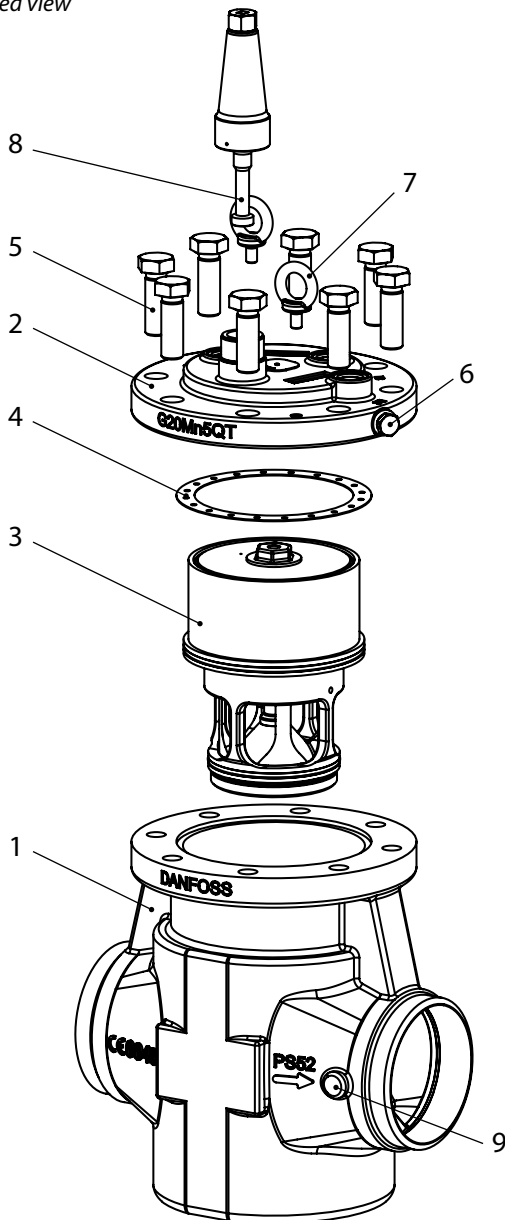

fig. 4
The top cover (fig. 4, pos. 2) and function module (fig. 4, pos. 3), must be removed before welding to prevent damage to o-rings and teflon (PTFE) in the function module and to avoid getting welding debris in the module.
Design (fig. 4)
The function module can be lifted out using a bolt size M10 or by using one of the eyebolts placed in the topcover (fig 4, pos. 7). Debris blocking the bolt hole will need to be removed.